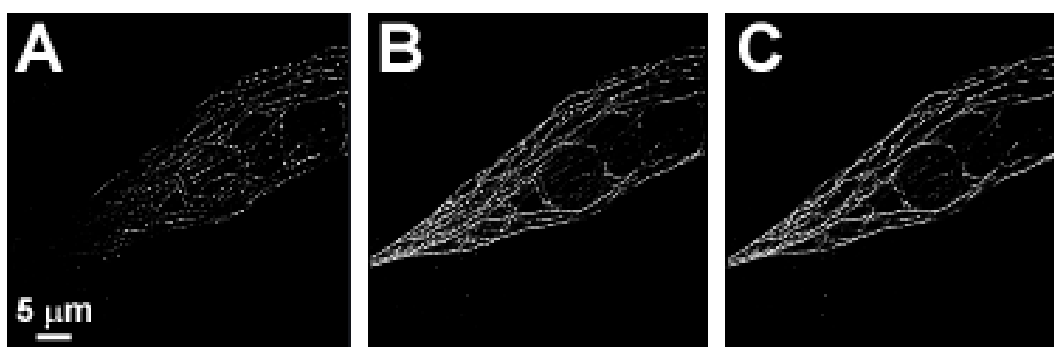

Fig. 450 Analyzed data set of Fig. 449 using discard overlapping molecules (A), ignore overlap (B) and account for overlap (C).
- If **discard overlapping molecules** is selected, all overlapping peaks, indicated by red circles will be discarded. This will result in the highest accuracy, which is defined as the deviation of the fitted to the real peak position and localization precision (the standard deviation from the fit) (Fig. 450, **A**). This method is therefore the method of choice for single emitters and little overlap.
- If **ignore overlap** is selected, all single and overlapping peaks will be taken into account. However, fit accuracy will be decreased when multi-emitter events are fitted as the distribution of one emitter will influence the distribution of an overlapping one without this fact taken into account. Hence accuracy might suffer for multi-emitter events whereas localization precision will be sustained. (Fig. 450, **B**). This method is most suitable for slightly overlapping molecules.
- If **account for overlap** is selected all single and multi-emitter events will be taken into account. For multi-emitters the overlap of neighboring molecules is taken into account so losses in accuracy are minimized. There will be a slight decrease in the localization precision (Fig. 450, **C**). This method should be used, when molecules heavily overlap.